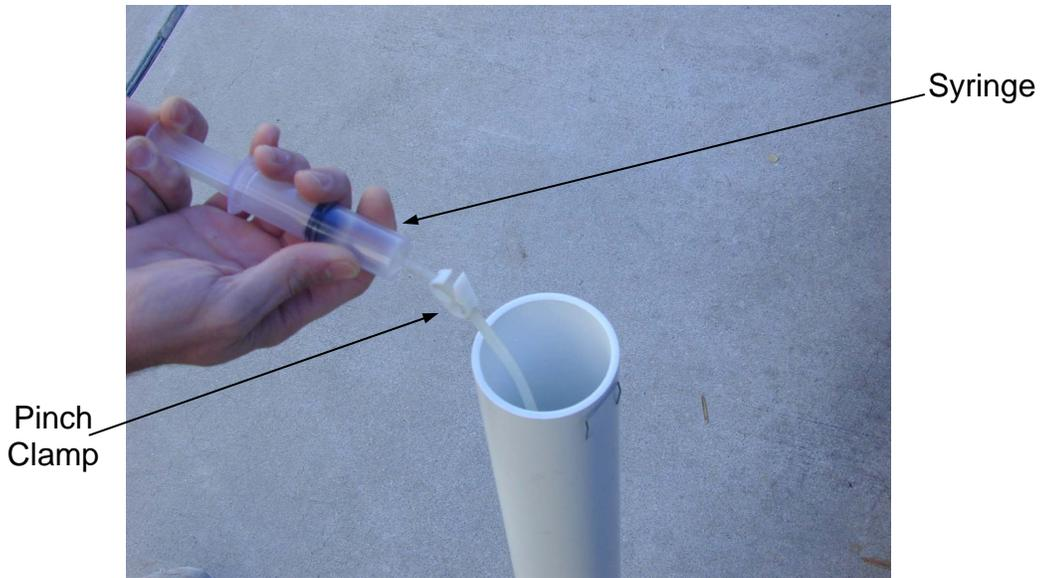

Figure 12: Filling the Syringe
Step 7 Refer Figure 12: Filling the Syringe. With the syringe attached to the upper end of the rubber tube, draw water slowly through the tube until the tube is completely full of water and free of all air bubbles. When full, pinch the tube closed with the plastic pinch clamp located just below the syringe.